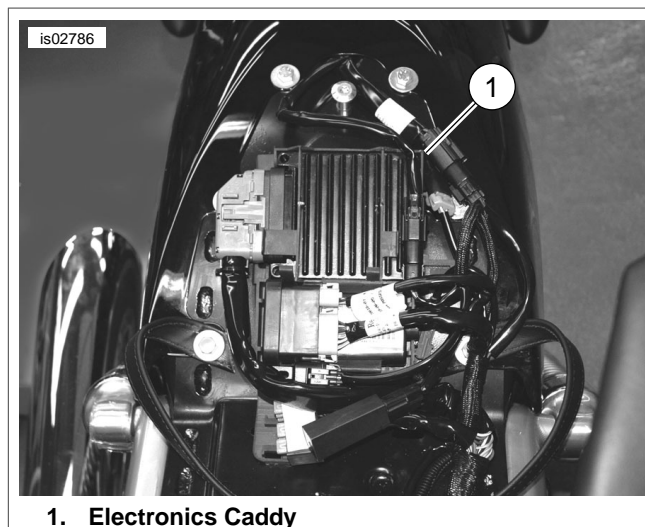

Figure 2. Remove Electronics Caddy
3. See Figure 2. Make note of electronics caddy location and wiring routes under pillion base. Press on the caddy's retaining tabs and remove the caddy from the fender. Move the caddy and wiring to the side.